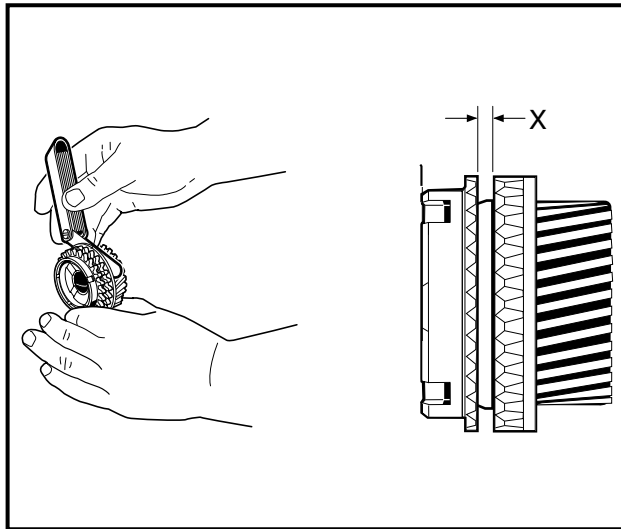

Figure 7-26 Synchronizer Ring
5. Using a feeler gauge, measure the distance X at several points around the assembly. The synchro ring should be replaced when X is 0.02 inch (0.5 mm) or less (**Figure 7-26, Page 7-15**).